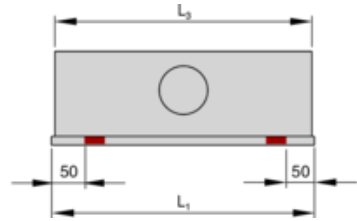

Fig. 16: Front rail length = plenum box length
3. Check and position the fixing material in the groove, positioning it as shown in Figure Fig. 13 to Fig. 16.
4. Using the screws, insert the diffuser face into the mounting points provided on the cross bar on the plenum box. Using an Allen key (4 mm) simplifies the fixing procedure. To remove the diffuser face, first undo the Allen screws (4mm Allen key).